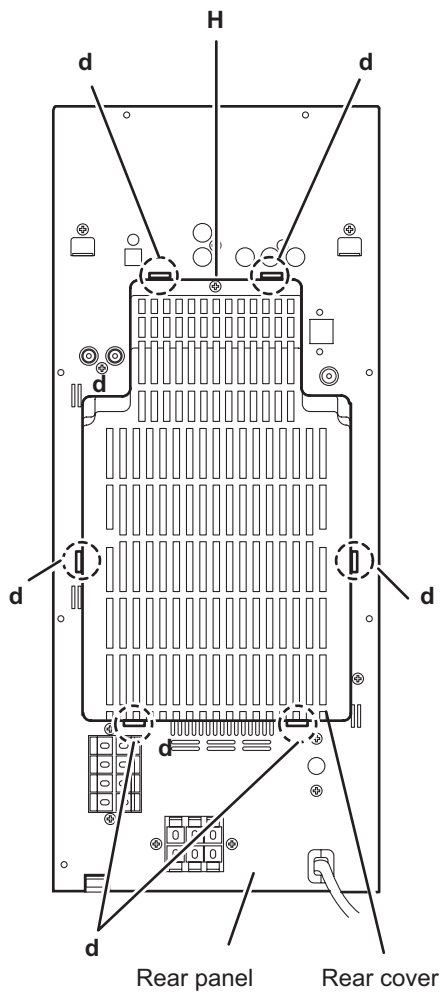
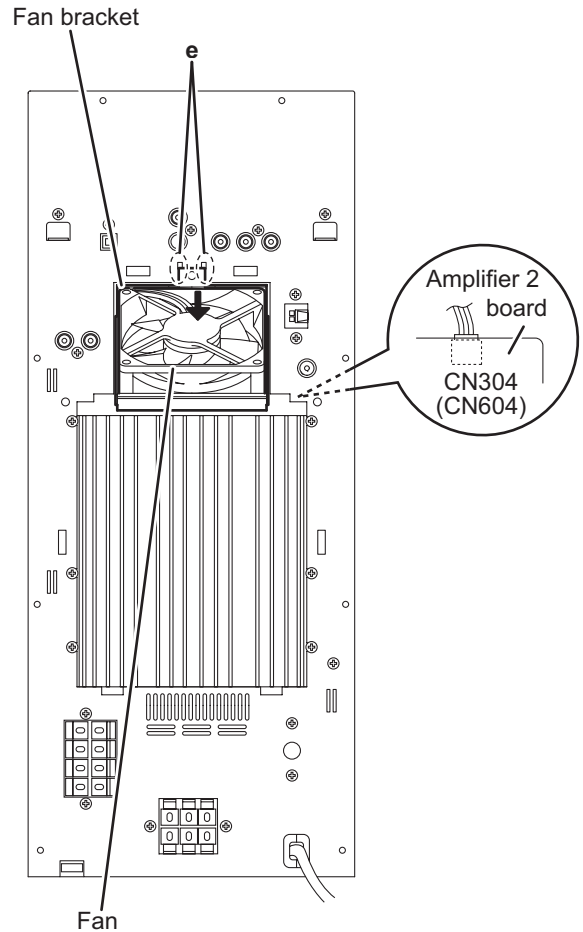

Fig.12
Fig.13
3.1.6 Removing the fan (See Fig.12, 13)
- (1) From the back side of the main body, remove the screw **H** attaching the rear cover to the rear panel. (See Fig.12)
- (2) Remove the joints **d** and remove the rear cover. (See Fig.12) From the left side of the main body, disconnect the wire from the connector **CN304** on the amplifier 2 board. (See Fig.13) **[DX-T99]**
- (3) Remove the joints **d** and remove the rear cover. (See Fig.12) From the left side of the main body, disconnect the wire from the connector **CN604** on the amplifier 2 board. (See Fig.13) **[For DX-T66, DX-T77]**
- (4) Release the two joints **e** of the fan bracket in the direction of the arrow and take out the fan with the fan bracket. (See Fig.13)